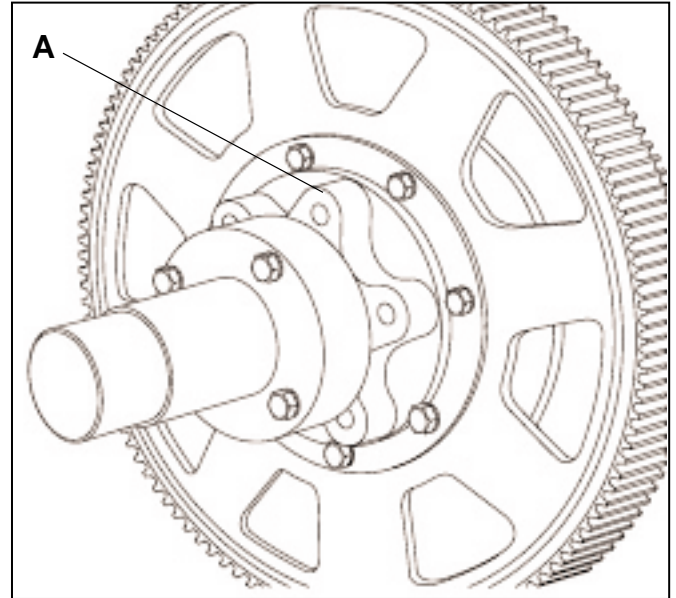

Figure 11.8 BULL GEAR
1. Unbolt bull gear from hub (bolt A in figure 11.8).